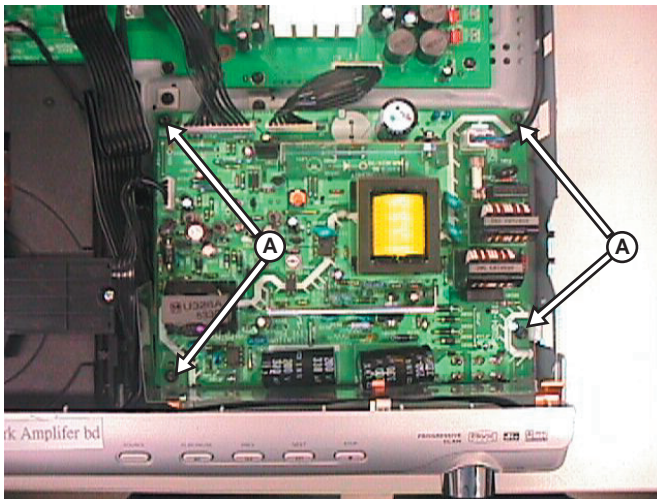

Figure 3-1
- 2) Loosen 4 screws A (See Figure 3-1) to remove the PSU Module.